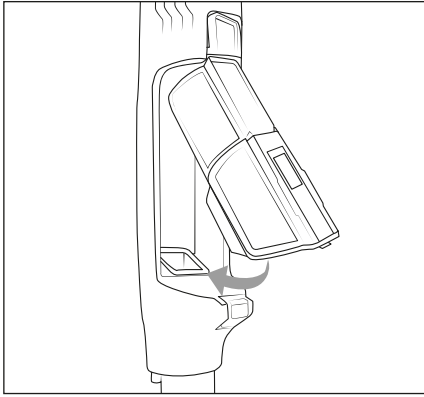

Fig. 21
- 8) First insert the HEPA filter holder **5** and then the dust container **7** into the appliance (see Fig. 21). Make sure that the dust container **7** clicks into place in the appliance.